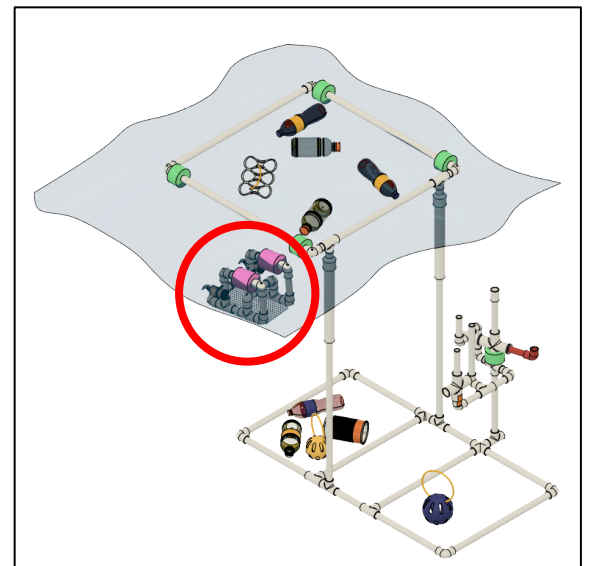

Figure 5 - Mini course with ROV starting location
- Start of run:** The ROV must be surfaced, within 6” of the corner of the Garbage Patch Frame (See Figure 5).
- a. *Start of run:* The ROV must be surfaced, within 6" of the corner of the Garbage Patch Frame (this is the same start position as Run 1 - See *Figure 5*).